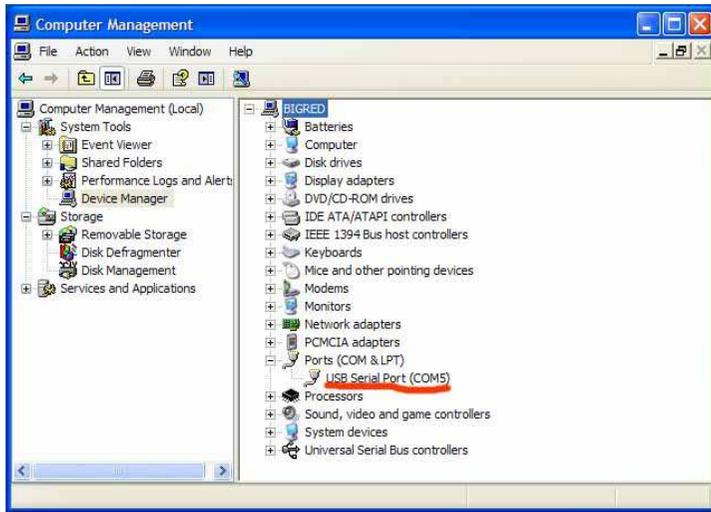

Figure 9
- then select *Device Manager* (Figure 9)